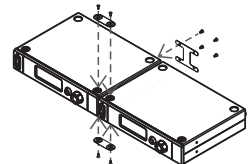

Fig. 9
(B) Screw top, bottom and back plates to joint two receivers, as Fig. 9.